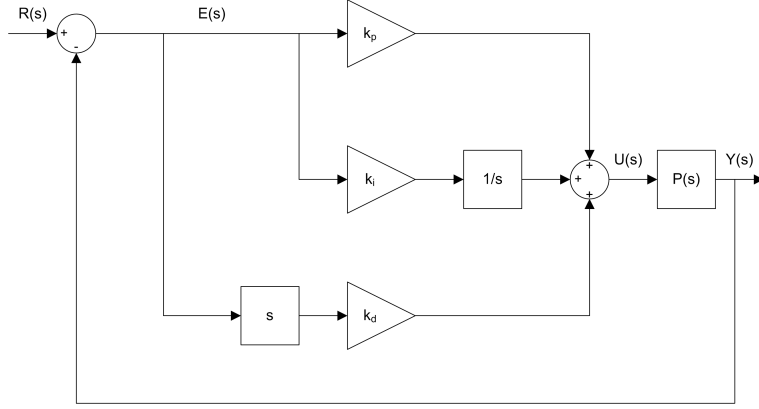

Figure 1: Block diagram of PID control
The corresponding block diagram is given in Figure 1. The control action is a sum of three terms referred to as proportional (P), integral (I) and derivative (D) control gain. The controller eq. (2) can also be described by the transfer function